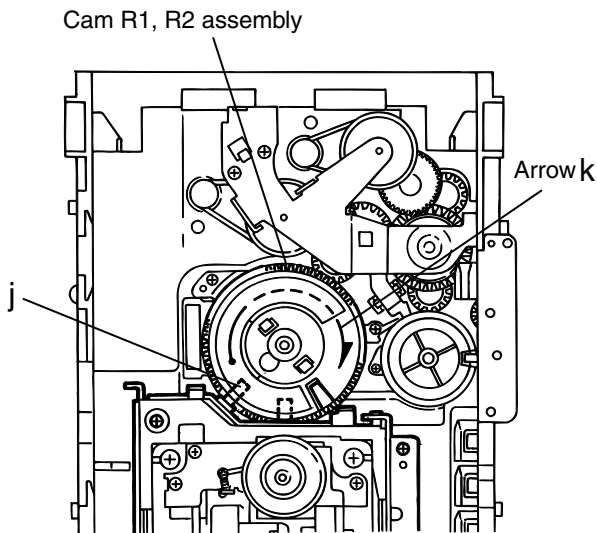

Fig.11
■ Removing the DVD traverse mechanism assembly (See Fig.11 and 12)
1. For dismantling only the DVD mechanism without removing the DVD mechanism assembly, align the shaft **j** of the DVD mechanism assembly to the position shown Fig.11 while turning the cam R1 and R2 assembly in the arrow direction **k**.